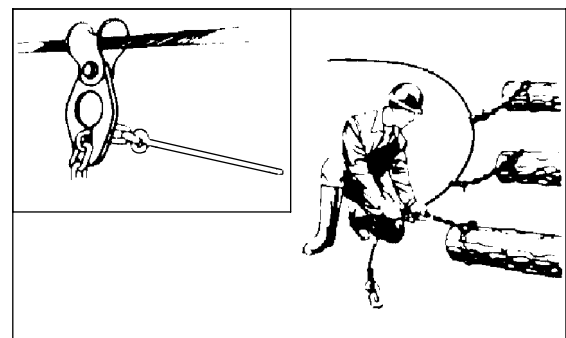

Fig. 8. Use a keyhole sliders to winch several logs at one time.
- Several logs can be hooked up and winched in at one time by means of keyhole sliders on the cable. The skidding chain should have a pin on the end, which makes it easier to pass the chain underneath the tree. See fig. 8.